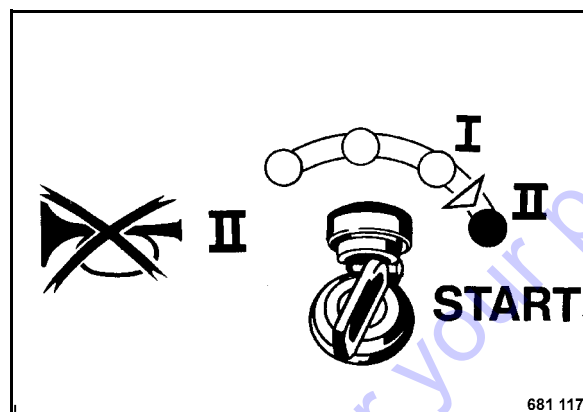

Fig. 18
- Then turn the ignition key further to position "II" (Fig. 18), the engine will start.